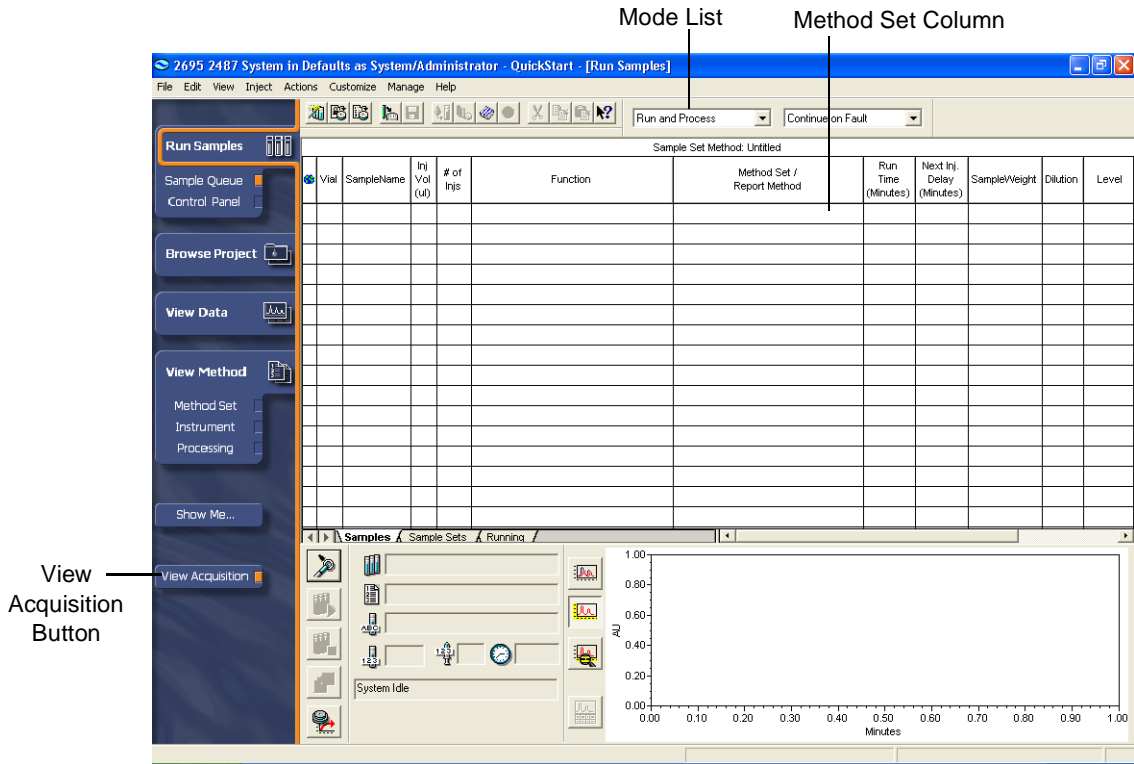

Figure 4-35 Run Samples, Samples Tab, Run and Process Mode
2. Click **Run Samples**. The Run Samples window appears (Figure 4-35).
3. Select **Run and Process** from the list (Figure 4-35).